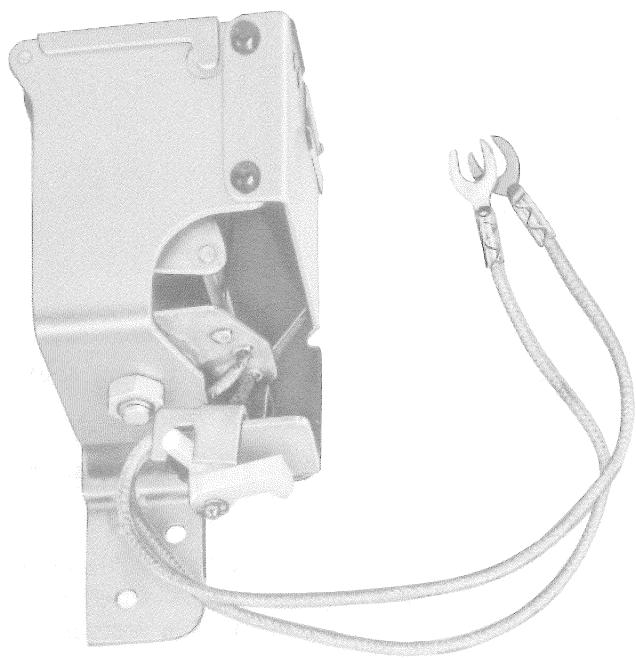
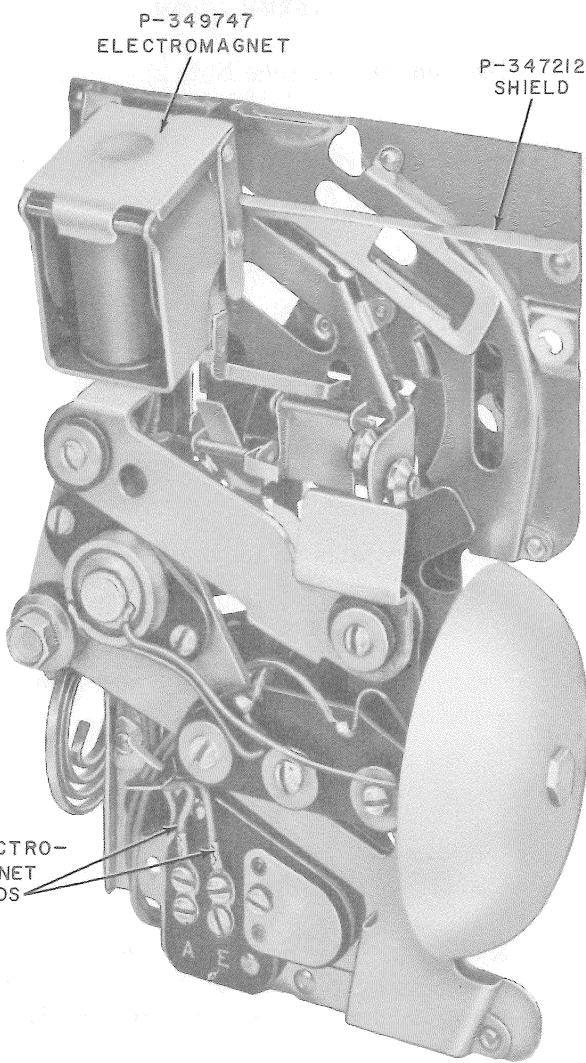

Fig. 1—D-180352 Kit
Fig. 4—Coin Chute and Gong Assembly Before Modification
1.03 This section provides instructions for installing a D-180352 Kit (Fig. 1) which is an electromagnet replacement for the P-349747 electromagnet on P-20A125 through P-20A130 and P-340222 coin chute and gong assemblies. Modification information is also included for the 1200-type coin collectors.
- (a) On P-20A125 through P-20A130 and P-340222 coin chute and gong assemblies, disconnect leads from terminals A and E and remove P-349747 electromagnet (Fig. 4).
- (b) On P-340222 assembly, it will be necessary to remove P-347212 shield (Fig. 4) as follows:
- (1) Bend the tab outward on the left side of the shield.
- (2) Break the right side of the shield away from rivet by bending the shield in a repeated upward and downward motion.
- (c) Install D-180352 Kit (Fig. 1 and 5) on the coin chute and gong assembly in the same position in which the electromagnet was located. Secure with existing hardware.